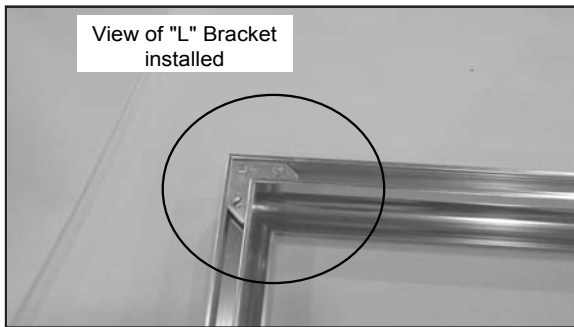

Figure 22.1
- a) Place corresponding cast trim pieces (2 cast trim sides and 1 cast trim header) underneath the surround set, also face down. Align the holes in the metal pieces with the 5 bosses on the top cast piece and 2 bosses on each side piece. **Figure. 22.1.**